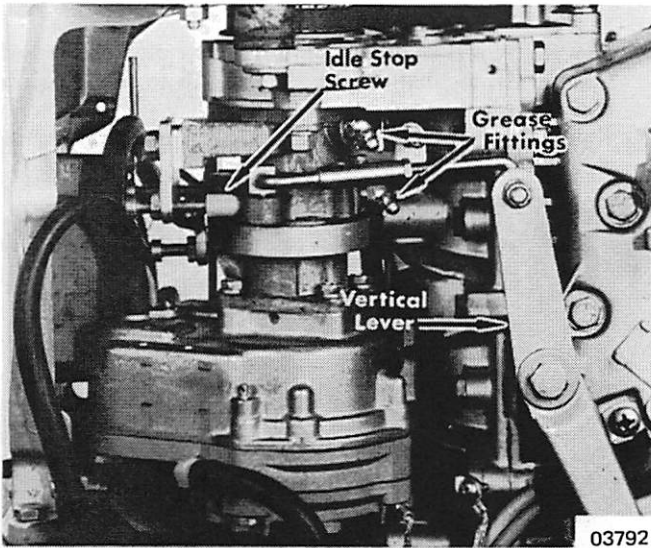

Figure 4. Idle Stop Adjustment Screw
1. Start engine and hold ignition driver at full retard. Adjust "Idle Stop" screw to produce idle speed of 550-to-600 RPM in forward gear. (Figure 4)